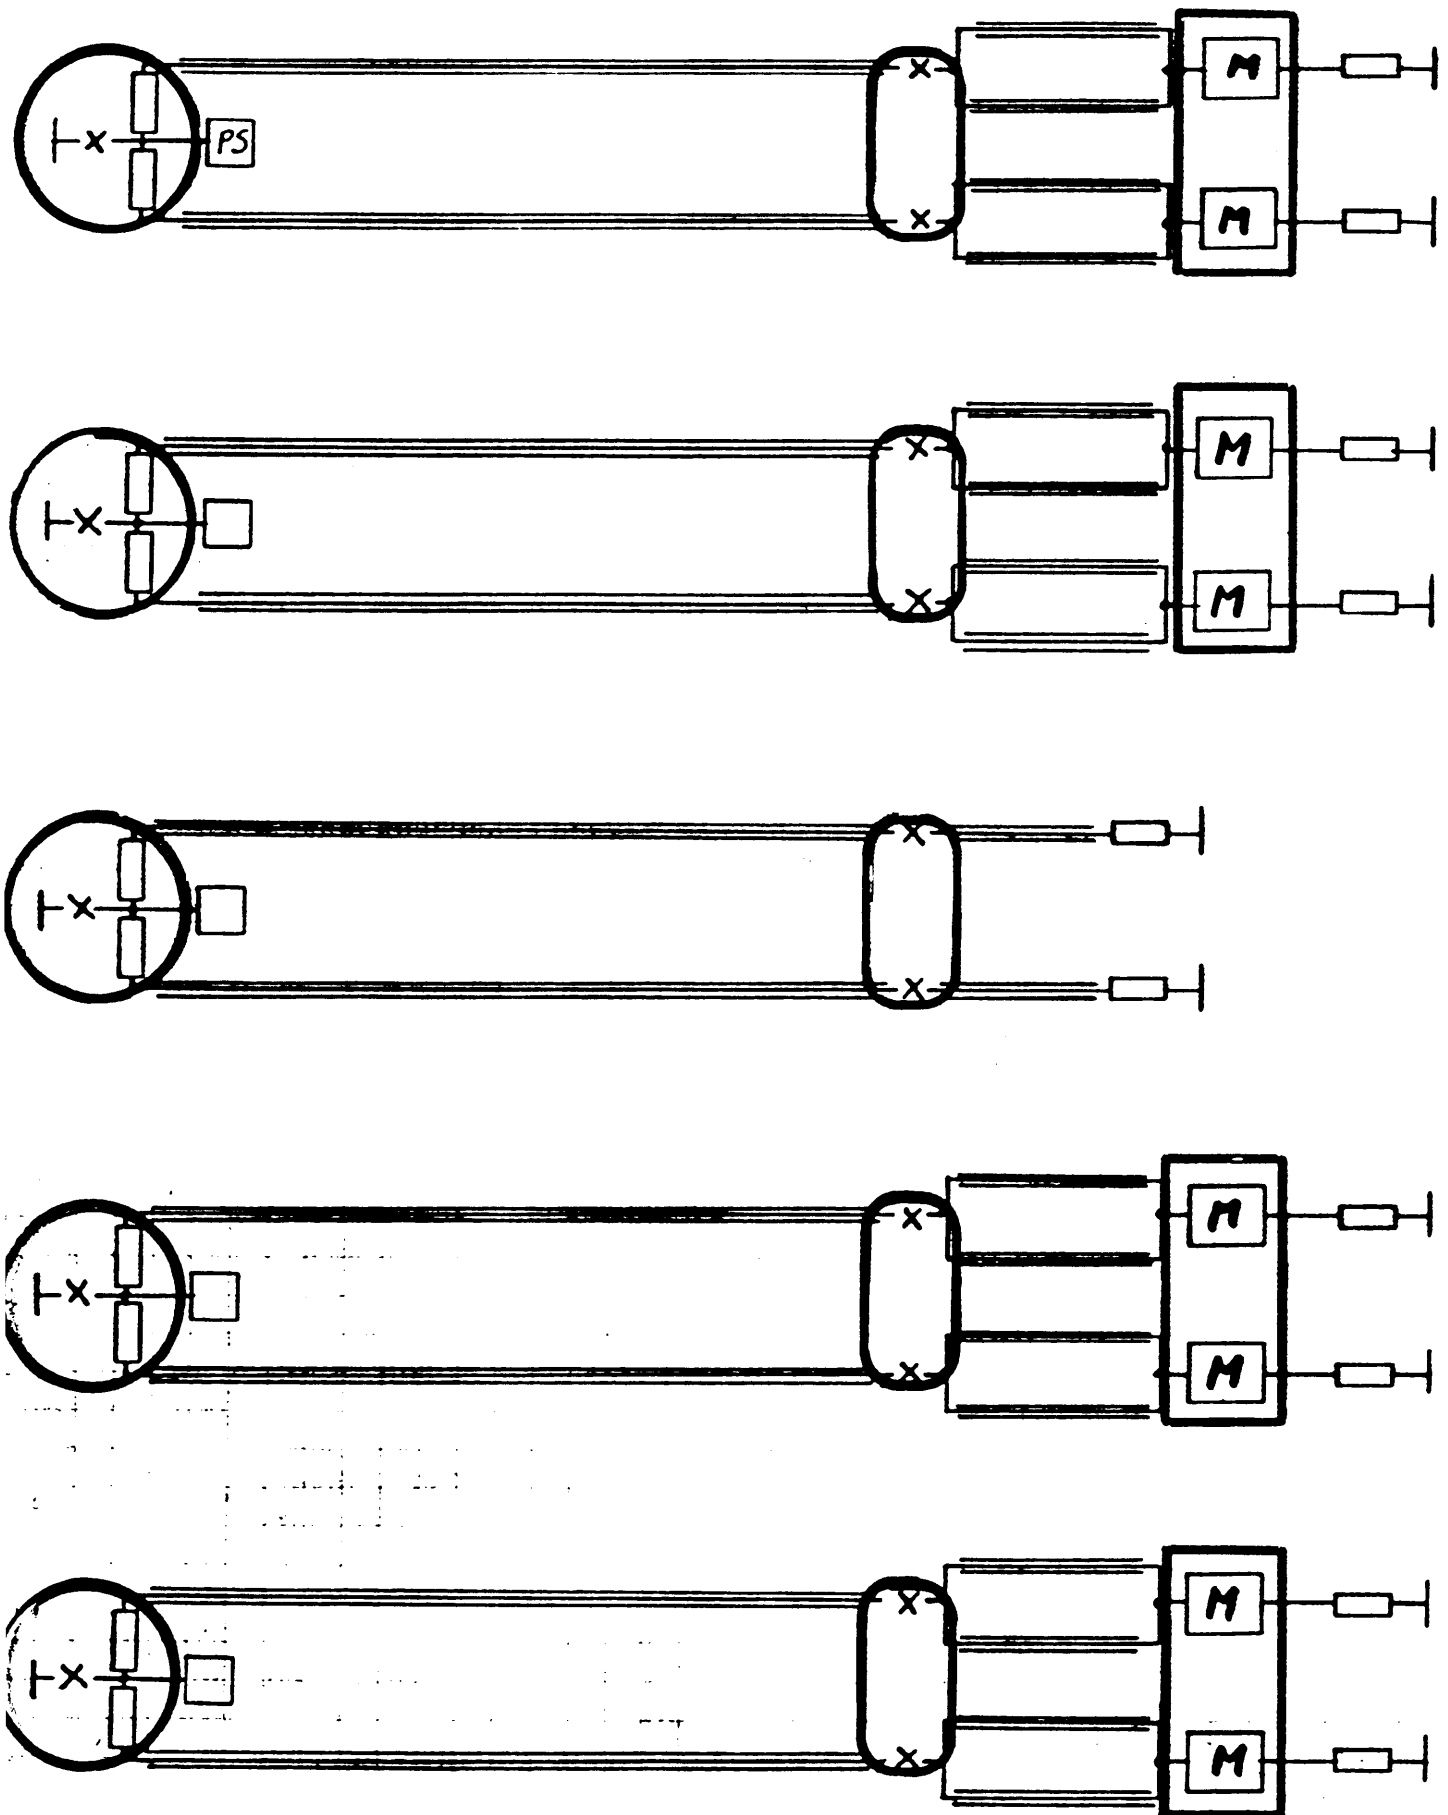

Figure 3a.
The five injection (INJ) kicker generators consist each of one double main switch (MS) tank, one dump switch (DS) tank, and one HV transformer assembly as shown schematically in Figure 3a. Between these items are connected the red HV charging and pulse forming network (PFN) cables, and the cables supplying low voltage from the two racks associated with each generator. The MS of each injection generator is connected to the appropriate EPA ring magnet or to the local dummy load via four black HV transmission cables.